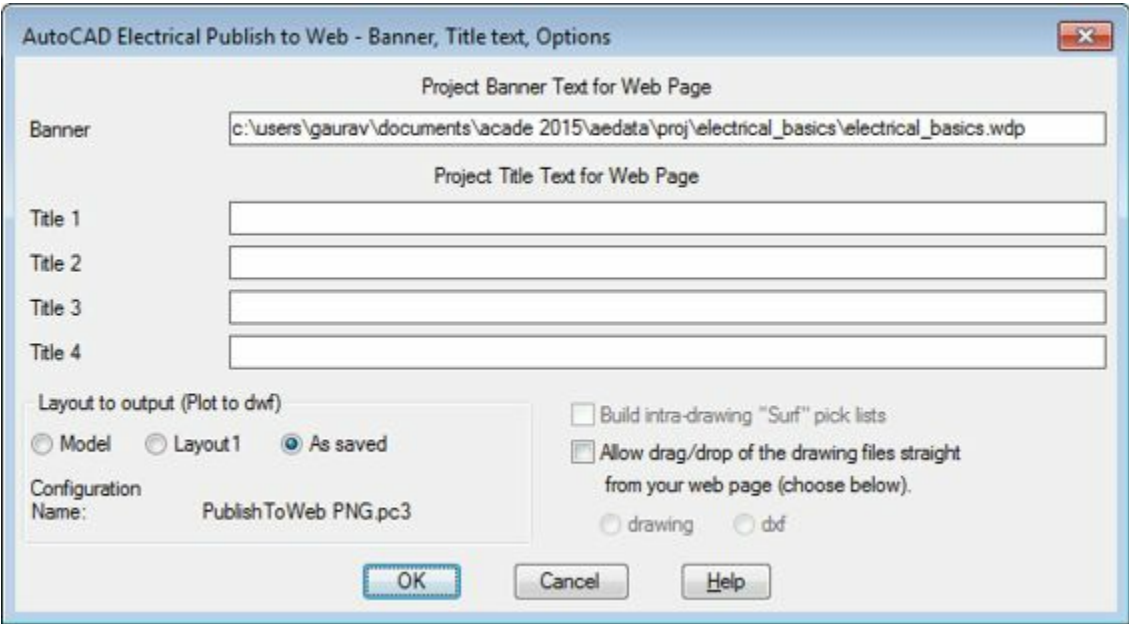

Figure-35. AutoCAD Electrical Publish to Web dialog box
- Include the desired drawings and click on the **OK** button from the dialog box. The **AutoCAD Electrical Publish to Web** dialog box will be displayed; refer to Figure-35.